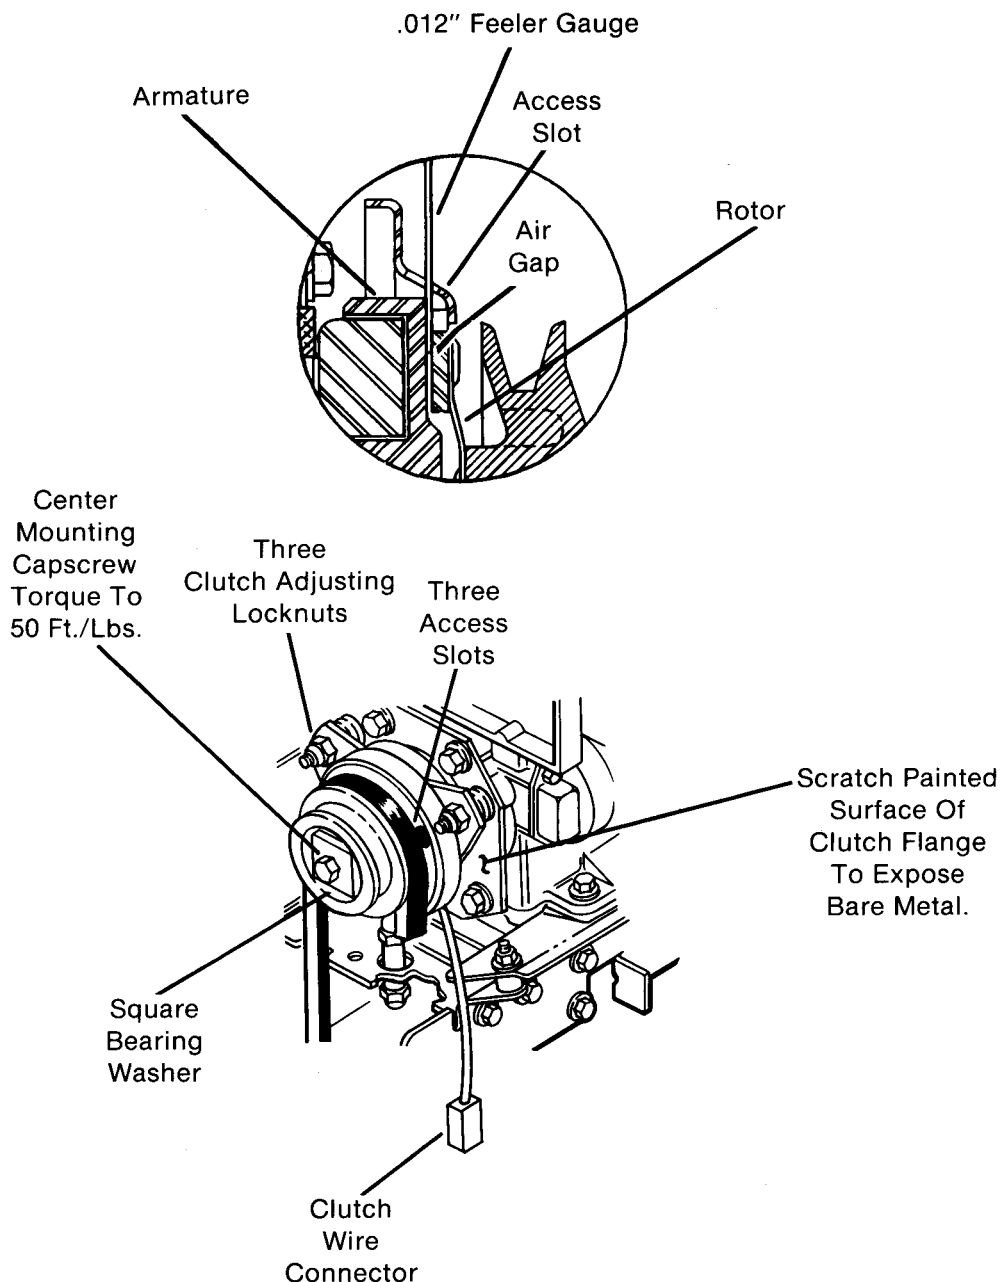

FIG. 11
equally  $\frac{1}{4}$  turn **clockwise**. (Fig. 11) This will decrease air gap and allow clutch surfaces to engage. Recheck gaps with feeler gauge, if more adjustment is required, continue turning locknuts equally  $\frac{1}{4}$  turn until correct adjustment is achieved.
- B. Using a voltmeter, check voltage at clutch wire, out left side of clutch. (Fig. 11) Connect positive (+) probe to clutch wire connector. Connect negative (-) probe to ground (engine mounting bolt). Turn ignition switch to the RUN position and engage the P.T.O. switch. Voltmeter should register more than 10 volts. If voltmeter does not register a reading, look for broken wires or connections. If voltmeter registers less than 10 volts, check battery charge and/or fluid level. If battery does not hold a charge of at least 10 volts, replace battery. If voltmeter reads over 10 volts, disengage P.T.O. switch and turn ignition switch OFF. Disconnect clutch wire at clutch wire connector and check resistance of clutch field coil as follows:
- C. Using an ohmmeter, connect one probe to clutch coil connector and with a knife, scratch the painted surface of the clutch flange to expose bare metal. (Fig. 11) Make other probe connection there. With ohmmeter set to low ohm scale, a normal resistance reading should be between 2.05 and 2.77 ohms. A reading outside these values indicates a faulty coil and P.T.O. clutch should be replaced as a complete unit when under warranty and field assembly should be repaired or replaced when out of warranty.
- C. Remove four capscrews and lockwashers attaching electric clutch to front of engine. (Fig. 11)
- D. Remove center bolt, square bearing washer and bearing spacer. (Fig. 11)
wire so it comes out right side of clutch housing when facing front of machine. (Fig. 11)